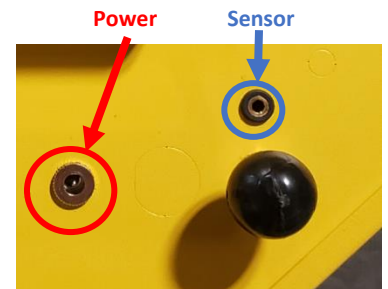

Figure 4
11. Plug the sensors into the top of the unit (Figure 4). **PLUG ALL SENSORS IN BEFORE ENERGIZING THE UNIT.**
12. Locate 1/4" plug from power supply and plug into top of unit (Figure 4).